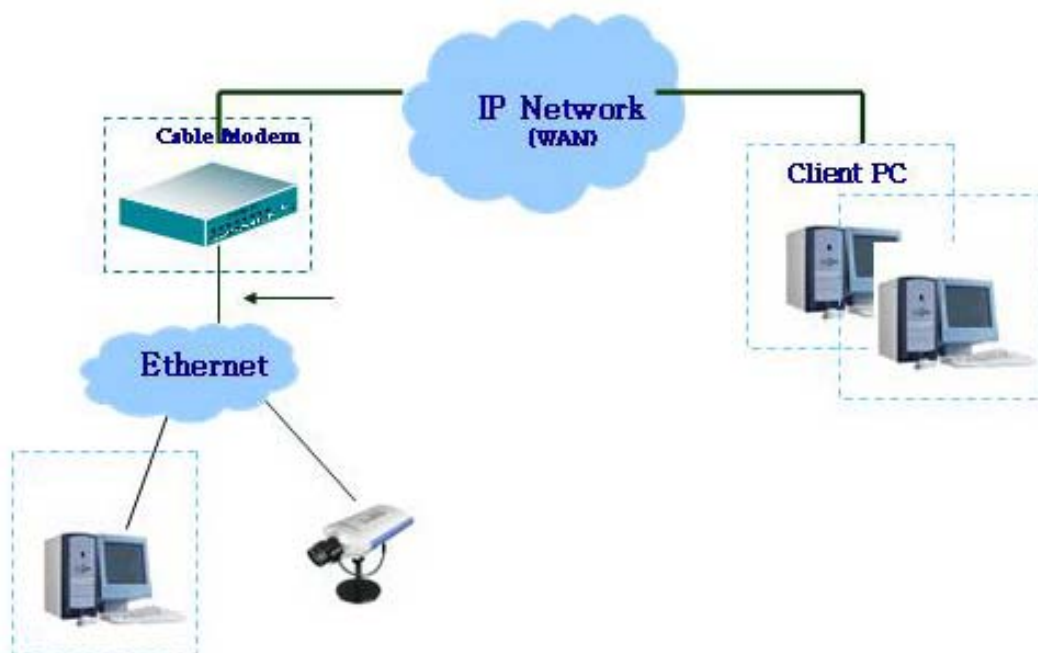

Figure 3-5. Connecting the iCanView110 to Cable Modem
3. Remove the crossover cable and connect the iCanView110 to the network using regular LAN cable as shown in Figure 3-5. Check if you can receive video data when connecting to iCanView110 using the viewer program.